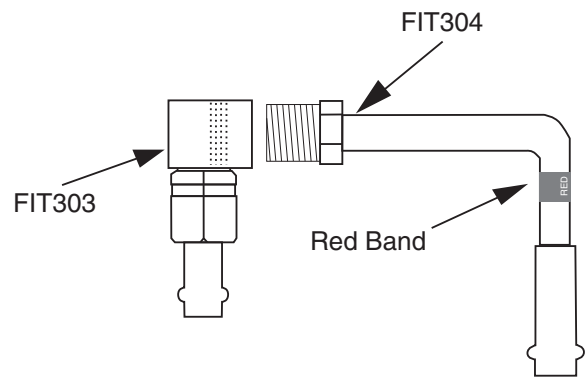

Figure 44. The Correct Fittings Selection
- Examine the vehicle fittings and compare them to the fitting chart on the back of the **T-TECH** cabinet door. In this case, a Chevrolet fitting is required and a review of the fitting chart indicates that FIT303 and FIT304 are the correct choices (see Figure 44).